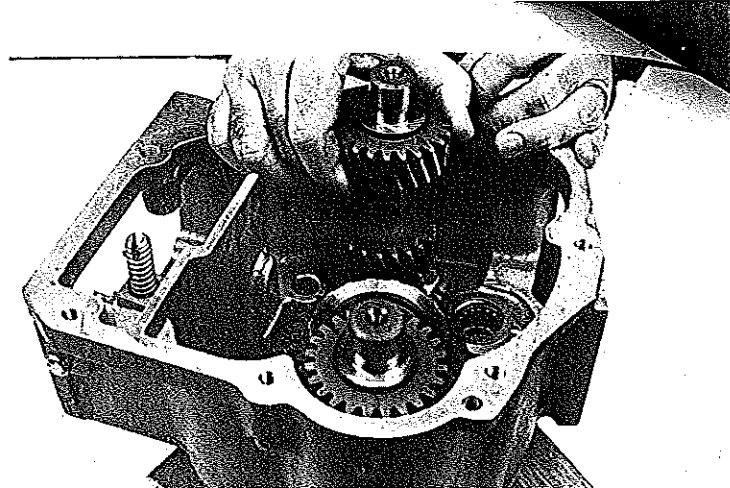
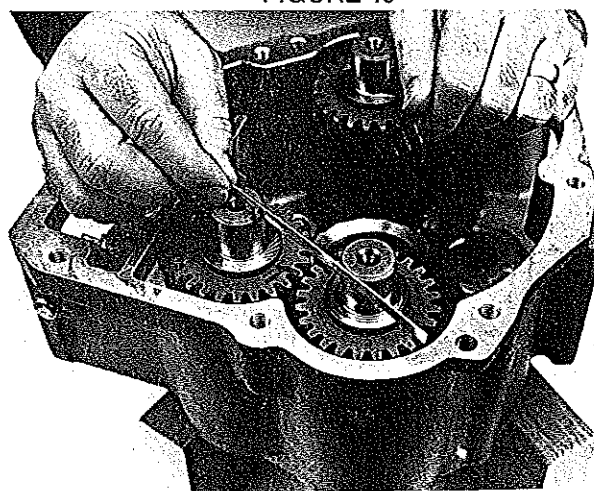

FIGURE 9
FIGURE 11
The planet gears are positioned in an X pattern. Place the upper left gear into position and then the lower right gear making sure the timing marks of the two (2) gears are on the same line as drawn through the centers of the two (2) planet and input sun gears (Figures 9 and 10). Next position the upper right gear. The timing mark should be in a direction toward the outside bearing diameter of the adjacent gear. (Figure 11).